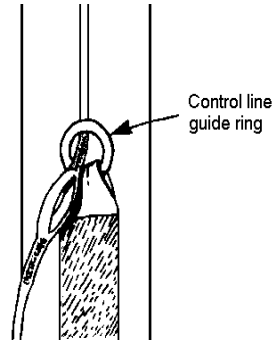

Figure 2
Step 4.) Set the brakes by pulling the control line down through the guide ring until the brake loop "cat-eye" just passes through the guide ring. (See Figure 2.)